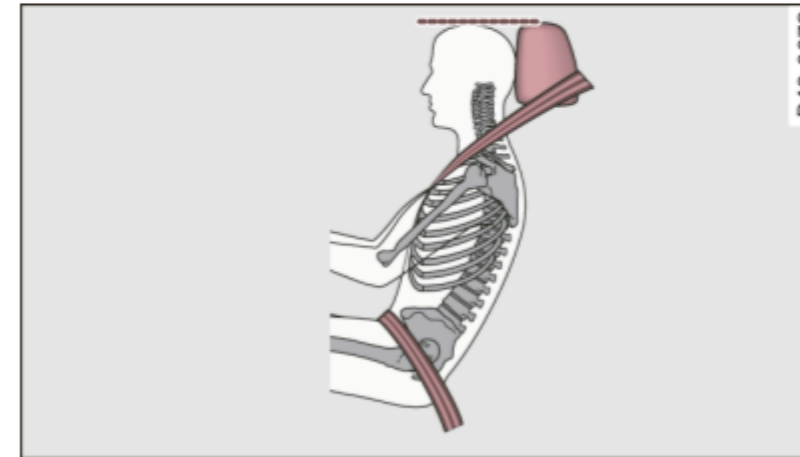

Fig. 86 Correctly adjusted head restraint viewed from the side
- Adjust the head restraint so that the upper edge of the restraint is level with the top of your head, but no lower than eye level and so it is as close to the back of your head as possible ⇒ fig. 86.